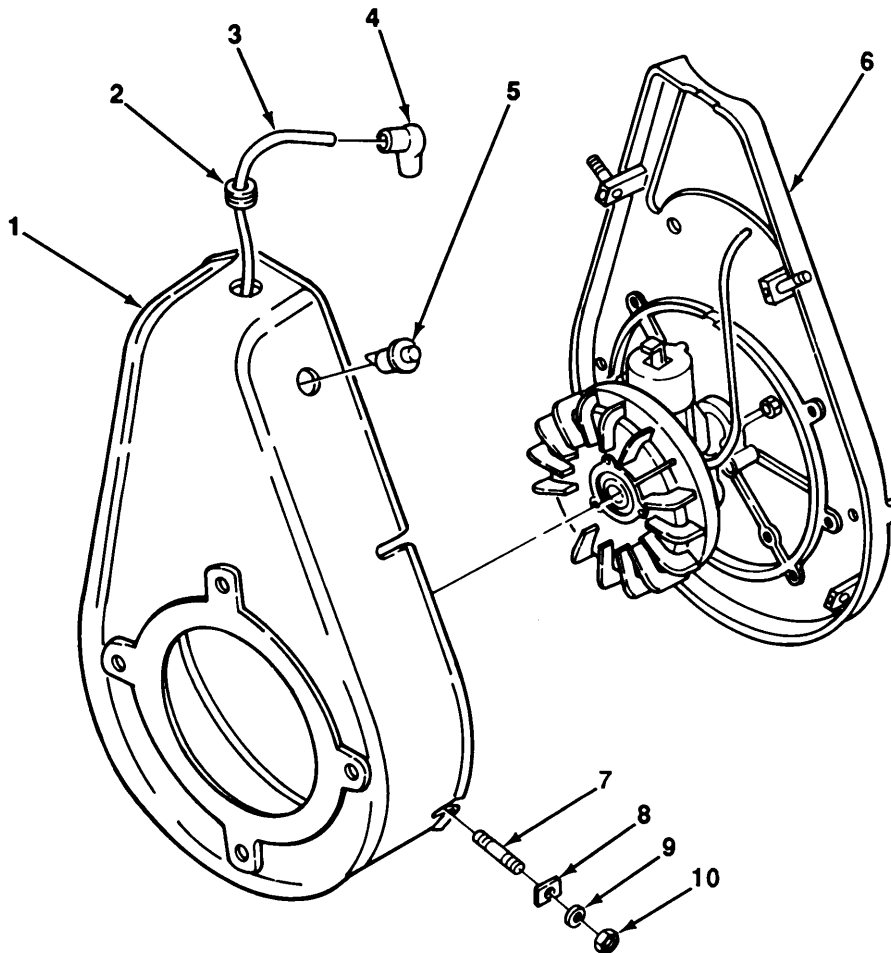

Figure 9-1. Fan Housing Replacement.
**Refer to Figure 9-1, Fan Housing Replacement, for steps b through d.**
- b. Remove terminal (4) from wire (3).
- c. Remove four nuts (10), lockwashers (9), washers (8), and fan housing (1) from crankshaft support (6). Discard lockwashers,
- d. Remove four studs (7) from crankshaft support (6).
- e. Remove grommet (2) and switch (5) from fan housing (1).
Refer to Figure 9-1, *Fan Housing Replacement*, for steps m through p.